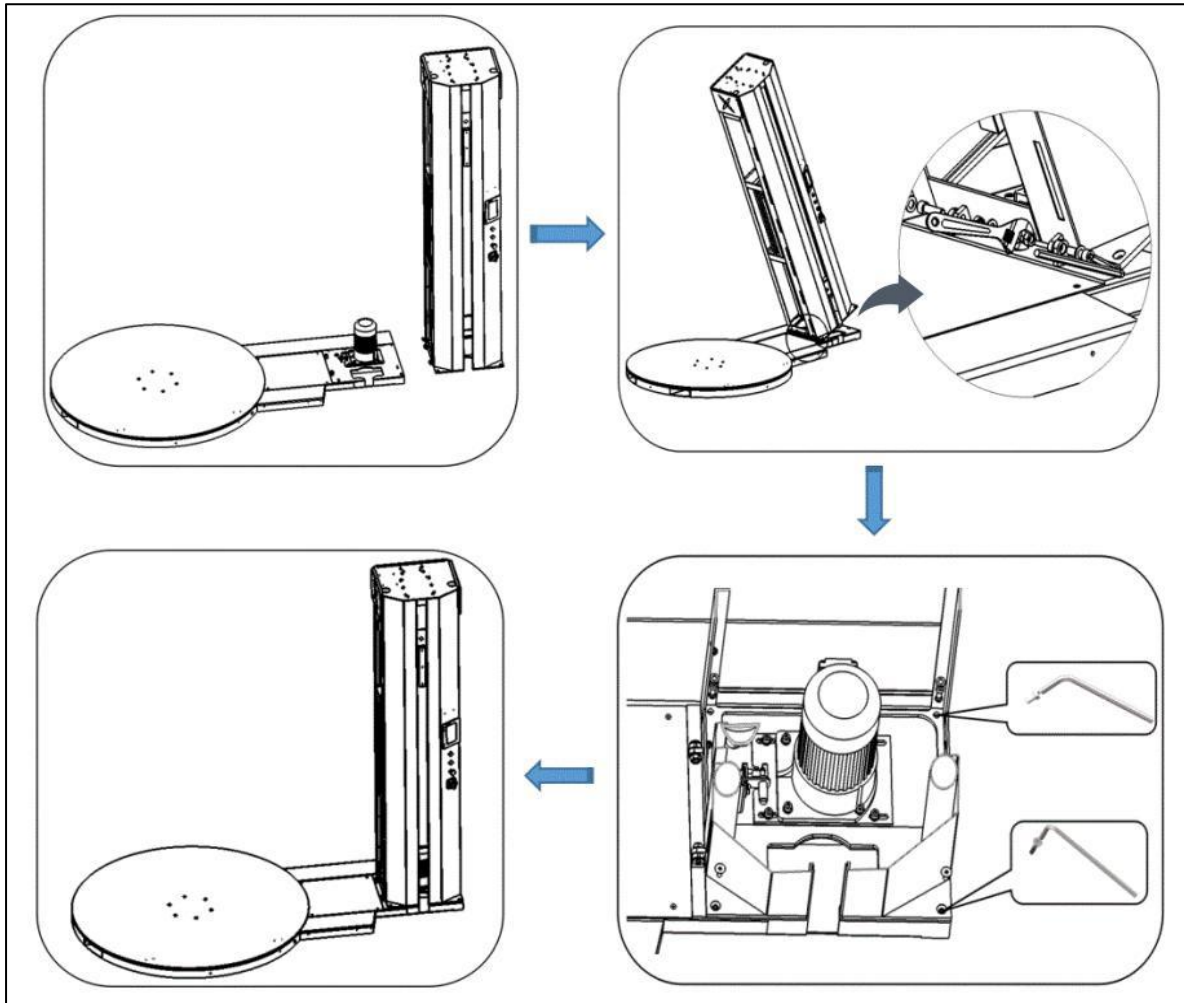

Figure 4.5.2.1
(1) Use the attached tools to mount the column to the turntable (see Figure 4.5.2.1 for the installation of the column)
(2) Connection between quick plug of power cord of chassis motor and reserved quick plug of column is shown in figure 4.5.2.2.